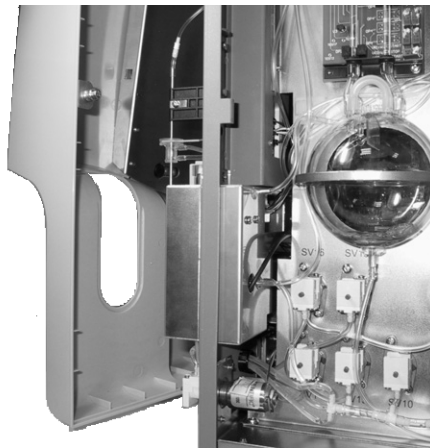

Figure 5-16
3. Figure 5-16 shows the machine with the front panel opened.